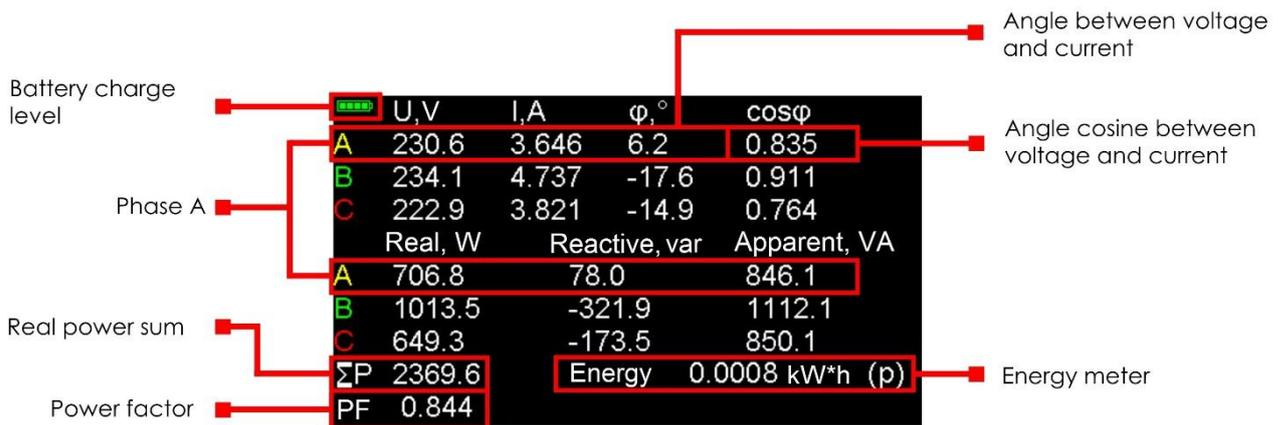

Fig. 5. Indication of the 2nd mode on the LCD of the device.
6.2.3 To measure power and phase shifts the connections similar to those made for voltage and current measurements are performed. Real, reactive and apparent power and energy are read from the screen as it shown on Fig. 5, in Watts, VAr and VA respectively. To determine the sequential order of the phases in a three-wire circuit, you should switch to the 1st mode on the device to display vector diagrams.
PF, real power sum, cosine of shift in each phase are displayed on the screen (fig. 5).